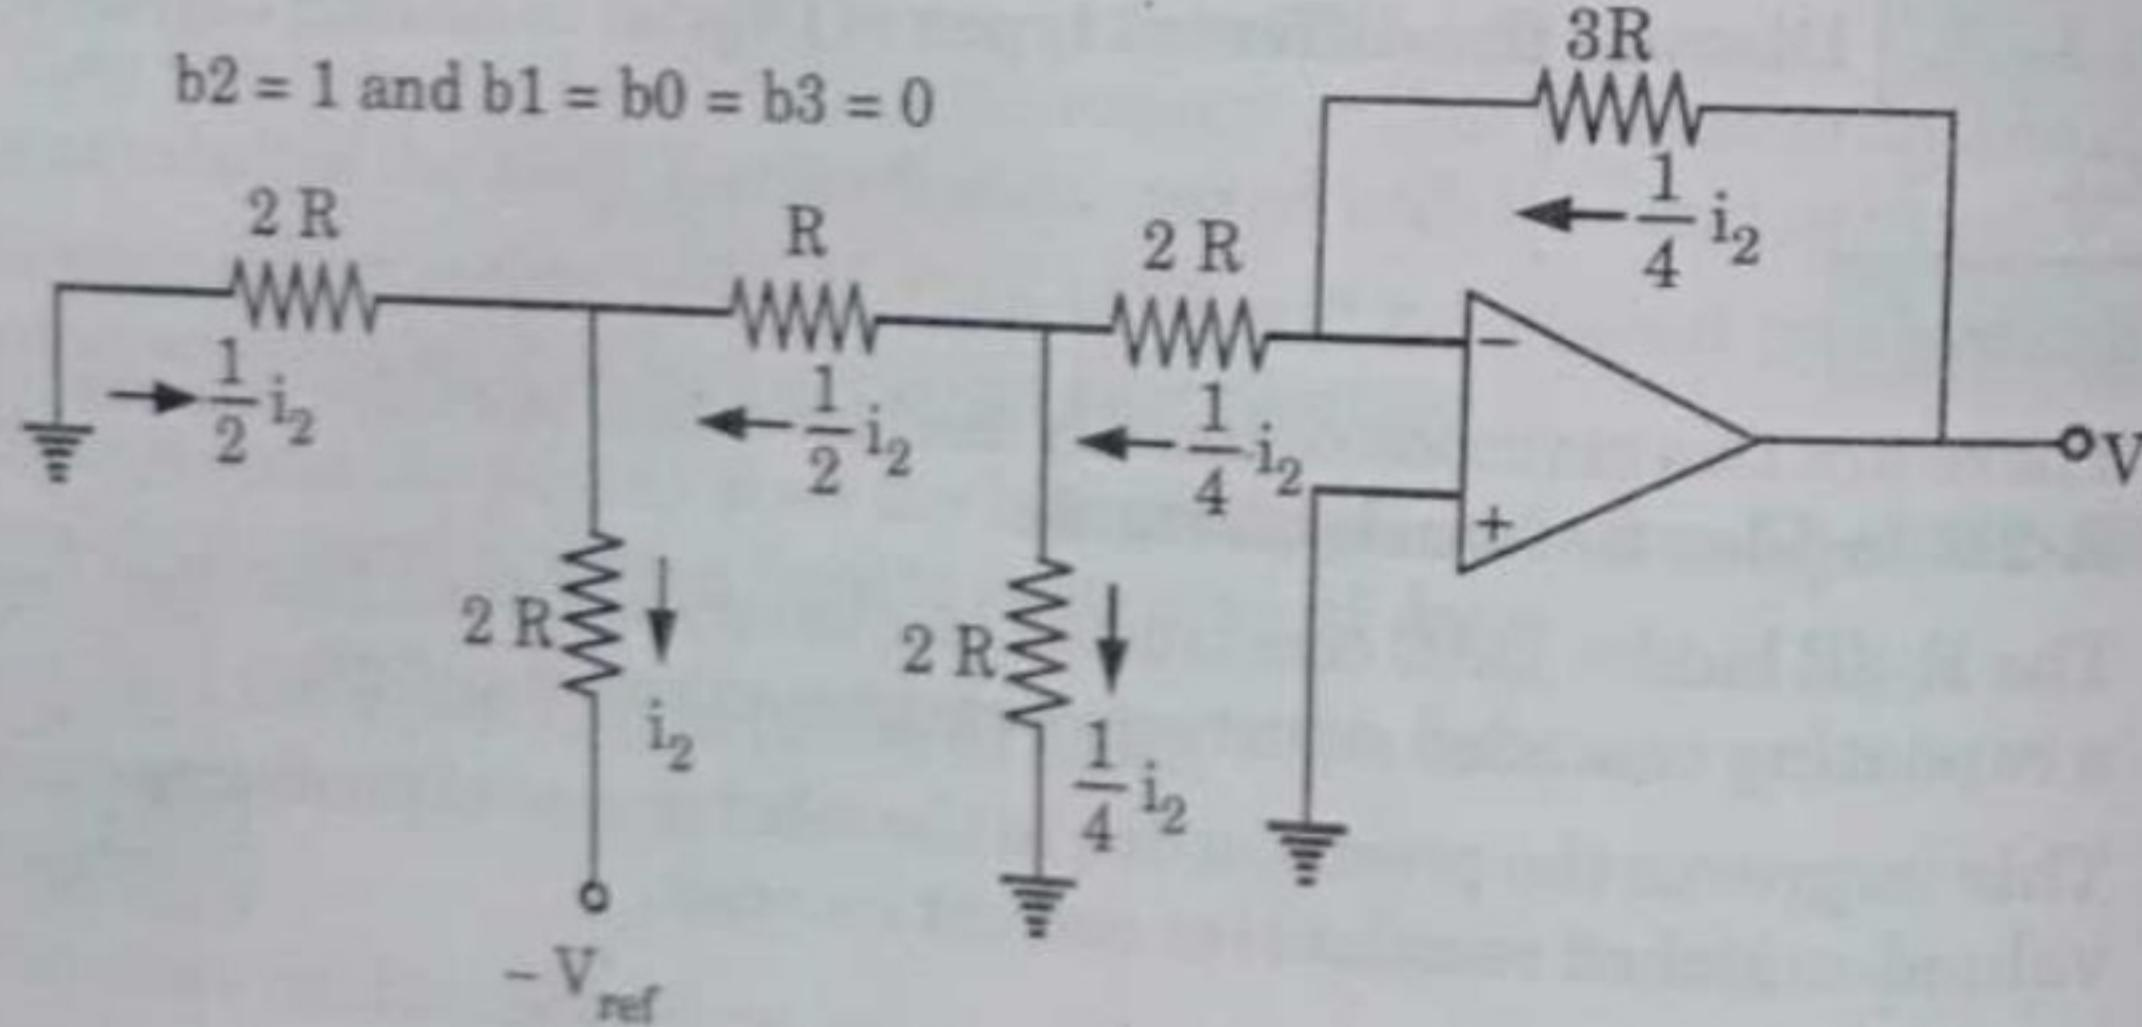
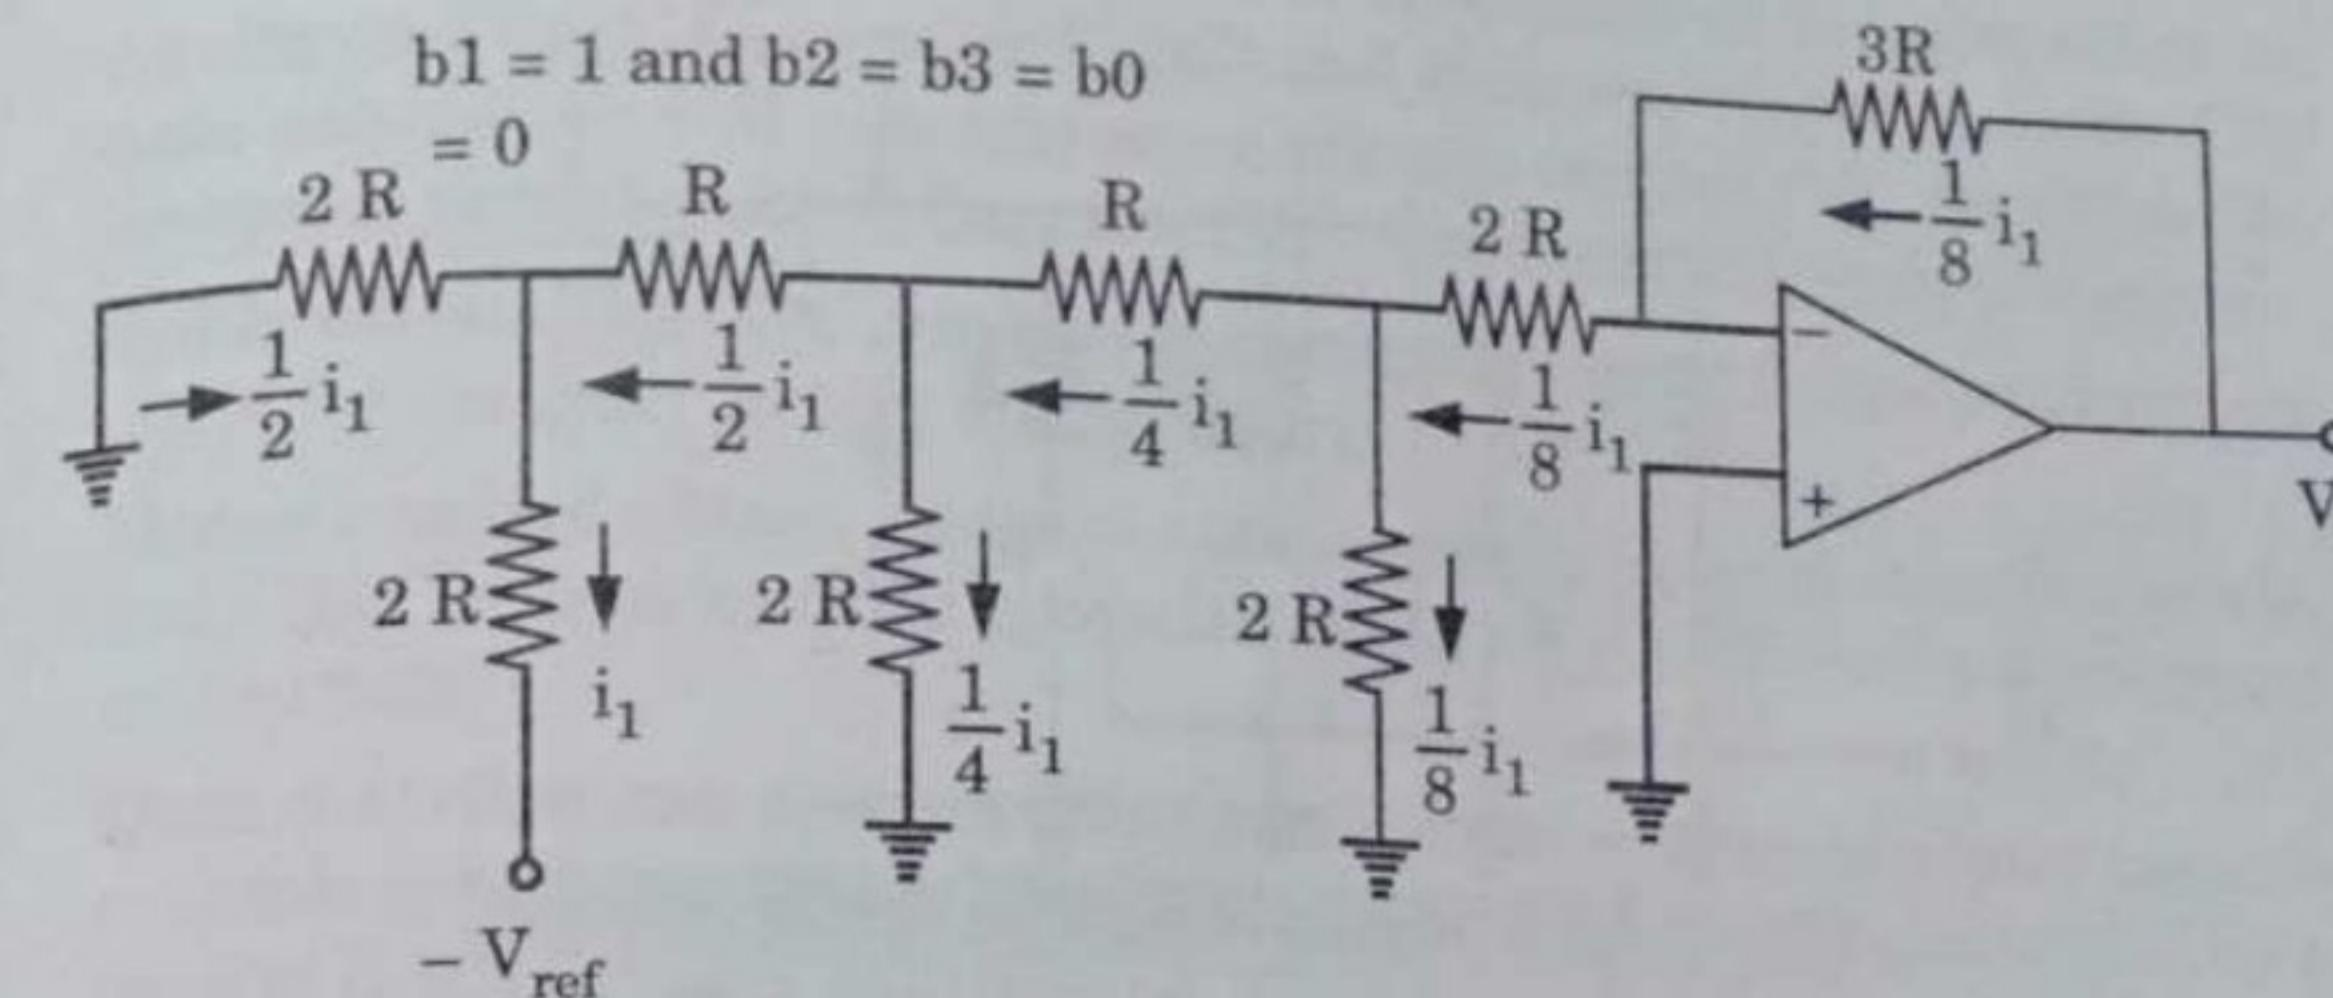

Fig. 4.15.3.
Fig. 4.15.4.
5. Similarly, If $b_2 = 1$, and $b_3 = b_1 = b_0 = 0$, then the output voltage is $V_o = 3R(i_2/4) = V_{ref}/4$ and the simplified circuit is shown in Fig. 4.15.3.
6. If $b_1 = 1$ and $b_2 = b_3 = b_0 = 0$, then the simplified form of Fig. 4.15.3 DAC circuit is shown in Fig. 4.15.4. The output voltage is $V_o = 3R(i_1/8) = V_{ref}/8$.